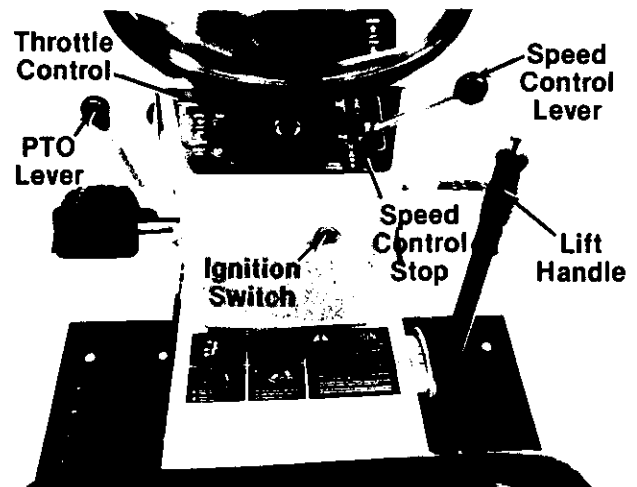

FIGURE 4. Hydrostatic Models 282 and 383
The speed control lever connected to the hydrostatic transmission controls both the speed and direction of the tractor. Infinite speed control is achieved by moving the control lever forward or backward. The farther forward you move the control lever, the faster you will travel. Pulling the control lever into neutral (N) area will stop the tractor. To increase rear wheel torque (pulling power), move the control lever towards neutral (N) position. The lawn tractor responds similar to shifting to a lower gear with a gear type transmission. See figure 4.
An adjustable speed control stop is provided to allow the operator to return to a predetermined speed. The speed control lever can bypass the speed control stop by pushing the lever outward and sliding it past the stop. See figure 4.